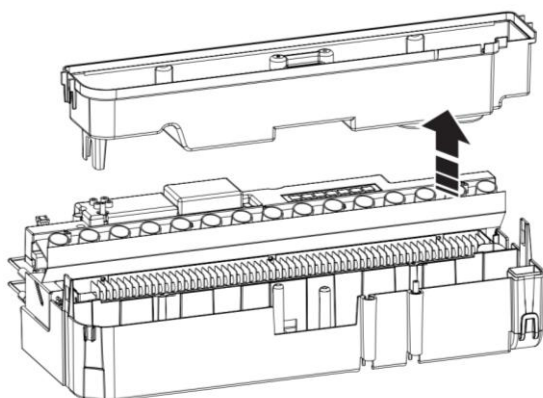

Fig 31
6. Gently lift up the sump (Fig 31), taking care to keep it level so as not to spill any water. Sit the sump in the sink.